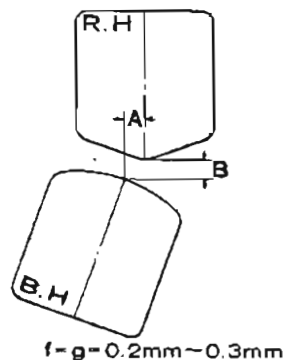

Fig. 4
- g) As shown in Fig. 4, Gaps A and B, which are between the Recording and Bias Heads, would be about 0.2 mm.